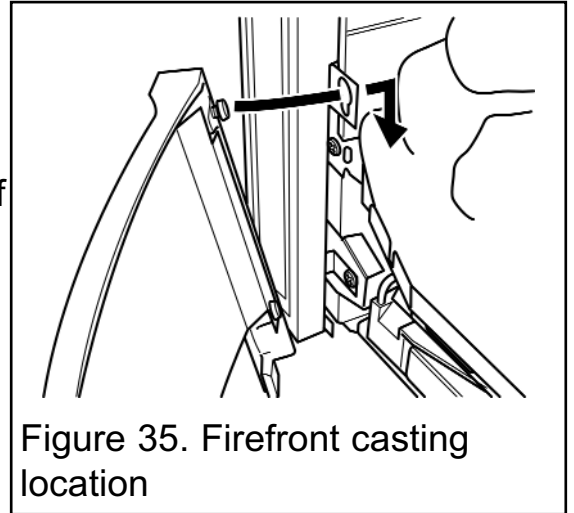

Figure 35. Firefront casting location
1. There are two screws located on the upper rear face of the firefront casting. Locate the two screw heads through the keyhole slots at the inner sides of the fascia. If the screw heads do not project enough or project too far, the screws can be adjusted. Lower the firefront casting so that it rests on the hearth (See figure 35).